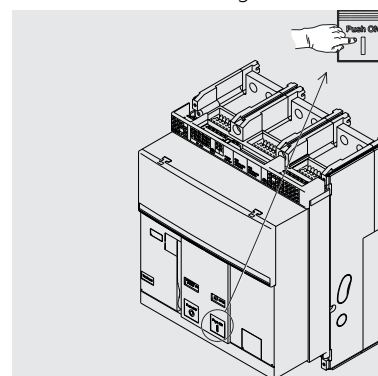

Figure 45
4. Closing - Press the closing pushbutton "I - Push ON" as indicated in Figure 45.